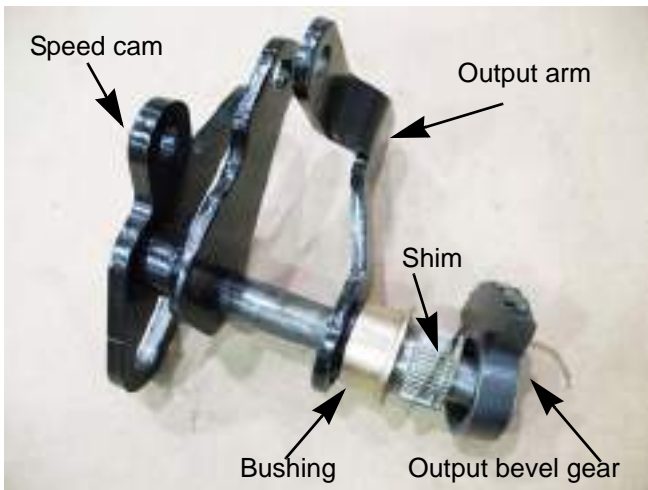

Figure 6B.59
- 8c. Place a .030" shim (or a wave washer if it came with one) over the output arm. See Figure 6B.59.